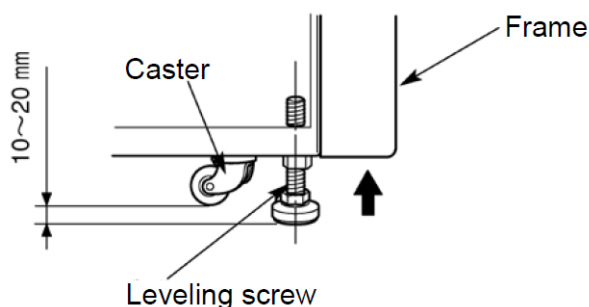

Figure 39: Leveling operation
3. Place the level across the top of the drive shaft in the rotor chamber (see Figure 39 Level Placement). Turn the four leveling screws until the bubble in the level indicates the instrument is level.